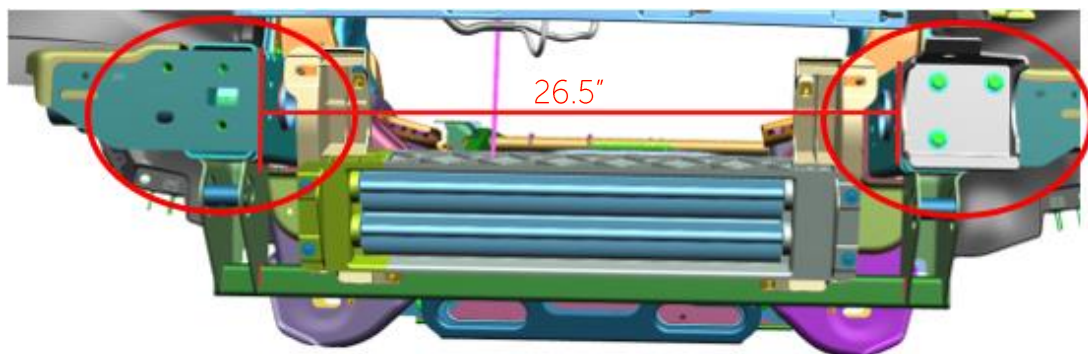

Figure 6 – Driver side Attached / Passenger side Un-Attached
- b. Using [6] M10 bolts (11588738), loosely install AEV frame brackets to frame horn of vehicle on each side - Fig. 6
- iii. Inside edge of both AEV Frame Brackets should measure 26.5" – Fig. 6